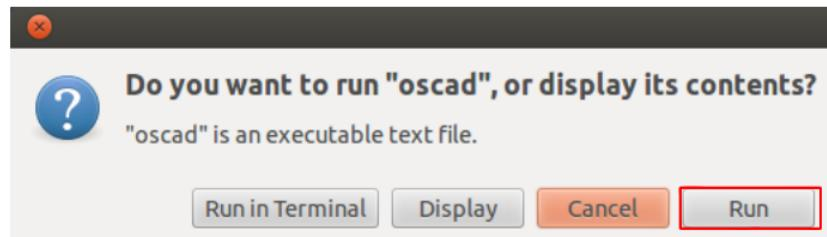

Figure 2.13: Desktop: Oscad - Choose the option ‘run’
- A window is displayed as shown in figure 2.13. Select the option **Run**